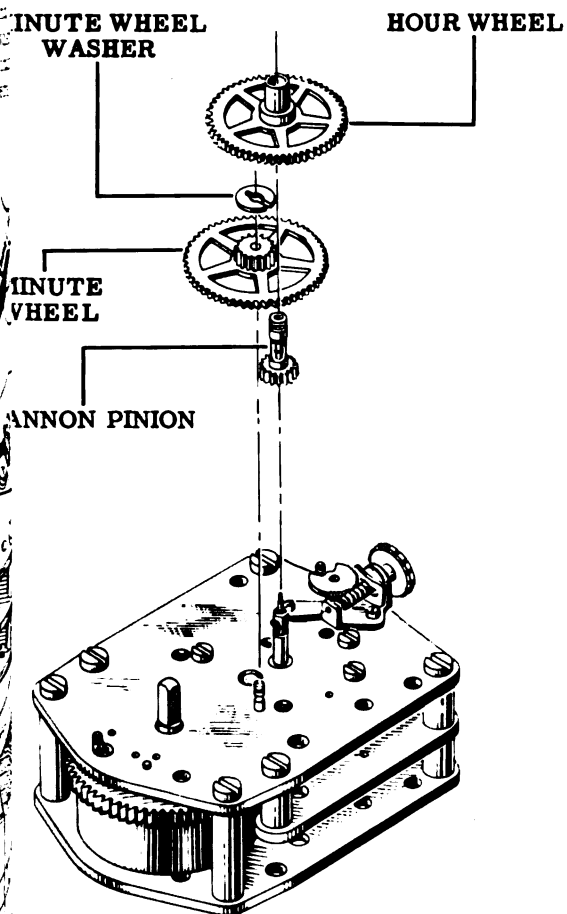

Figure 107—Mechanical Clock Movement
24. Put on the minute wheel and hour wheel. Slip the split minute wheel washer over the groove in the end of the minute wheel stud and clamp it tight with pliers. Refer to Figs. 107 and 109.